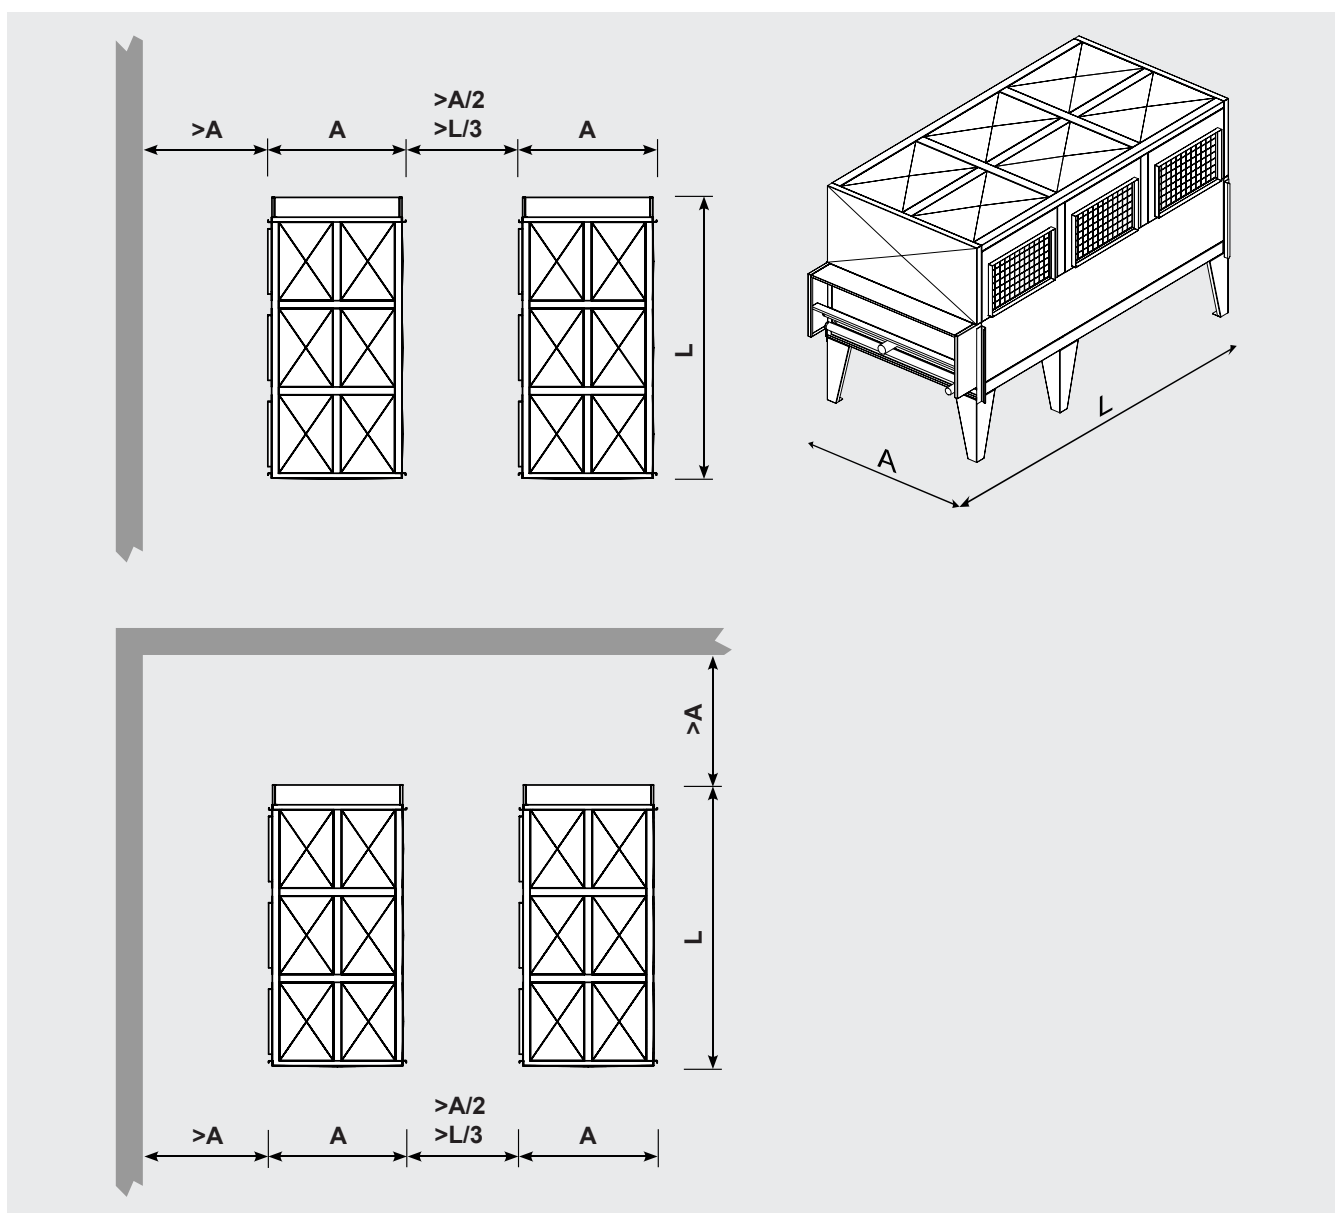

Figure 6
- 6.5 Provide adequate space for air circulation and maintenance. Avoid conveying the air flow directly onto surfaces with reflective power or that in any case could raise the noise level. Figure 6 shows the minimum clearances. For installations different from those indicated, contact Modine.